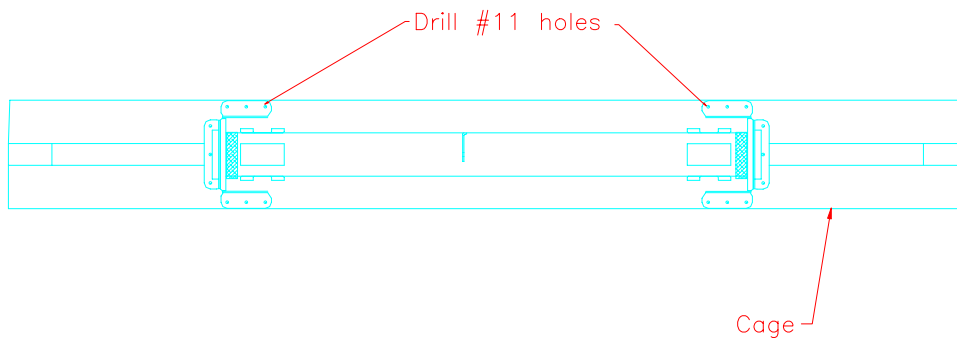

Figure 15.5.2
- 2) Drill #11 holes and cleco the bearing bases to the floor. Figure 15.5.2.